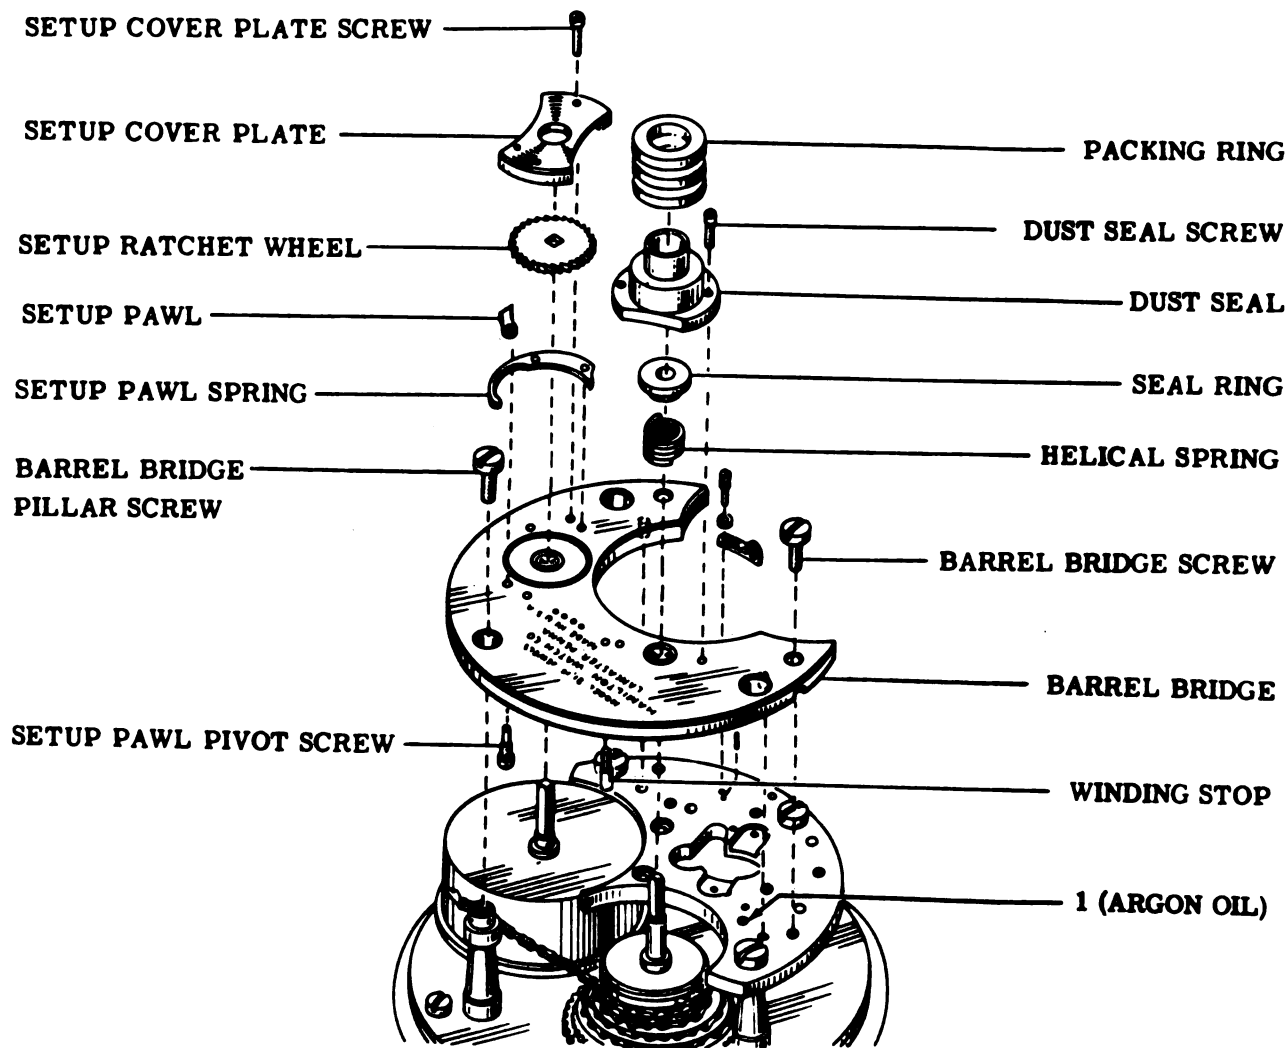

Figure 80
41. Screw in setup pawl pivot screw into barrel bridge. See Fig. 80 for relative position of parts.
42. Screw in winding stop (left-hand thread). Refer to Fig. 80.
43. Oil upper sustaining pawl pivot with argon oil. See arrow No. 1 in Fig. 80.
50. Turn movement over. Install the setup ratchet wheel, pawl and pawl spring. See Fig. 80 for relative positions of the parts.
51. Install the setup cover plate with two screws. See Fig. 80.
52. Subassemble new packing rings to dust seal. Install helical seal rings, seal ring and dust seal with two dust seal screws. Refer to Fig. 80 for location.